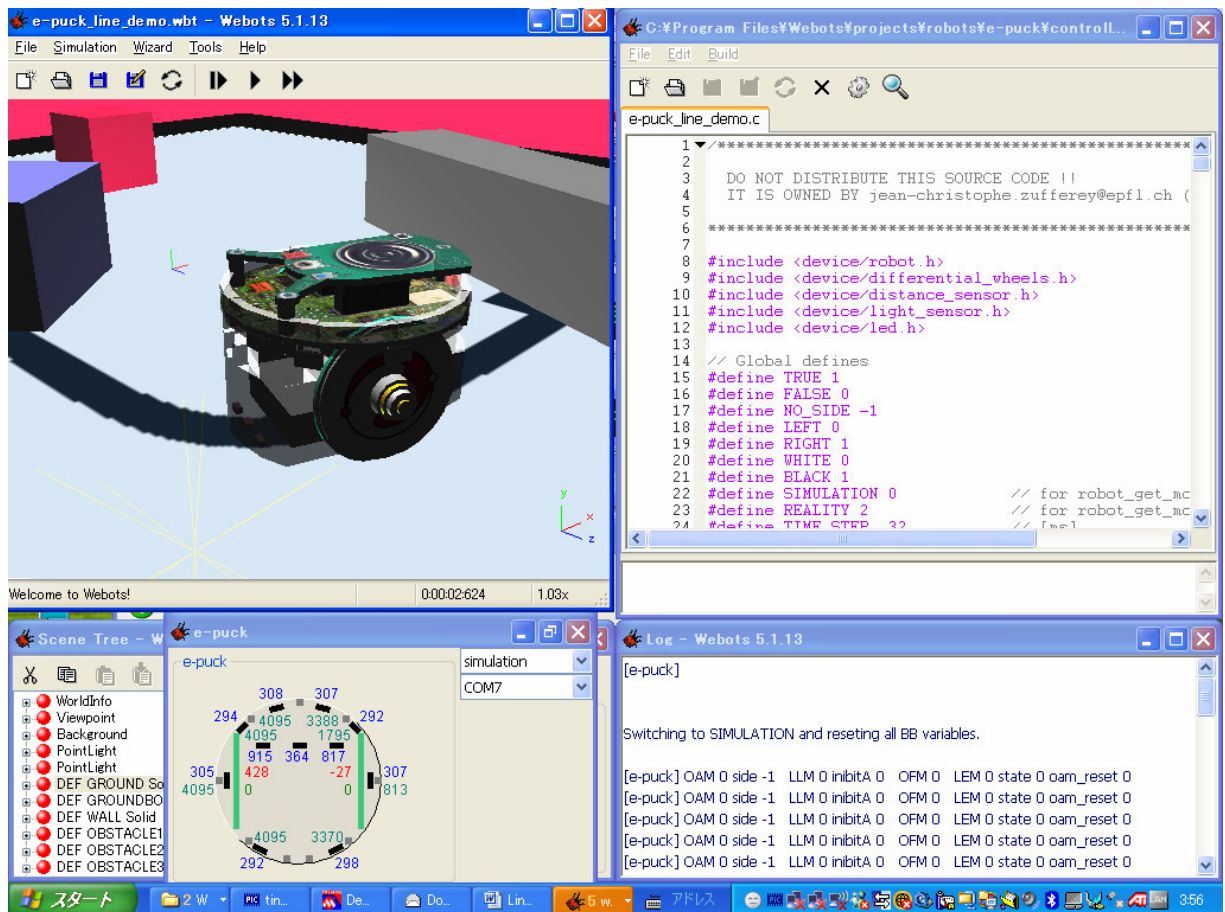

Figure 7.1 Line following demo running in Webots
- 6) Open *e-puck_line_demo.wbt* as shown in Figure 7.1.